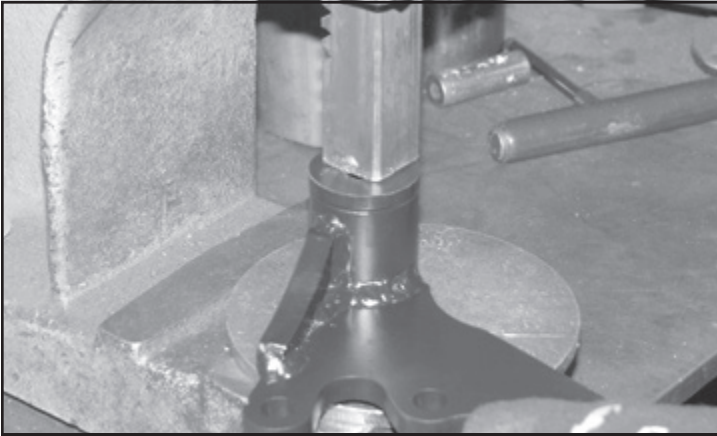

FIGURE 22 - STEP 25
25. Locate the center differential bracket (FT30564). Install two of the Fabtech (FT1020) bushings and one sleeve (FT181) into the barrel on the differential bracket. **SEE FIGURE 22**